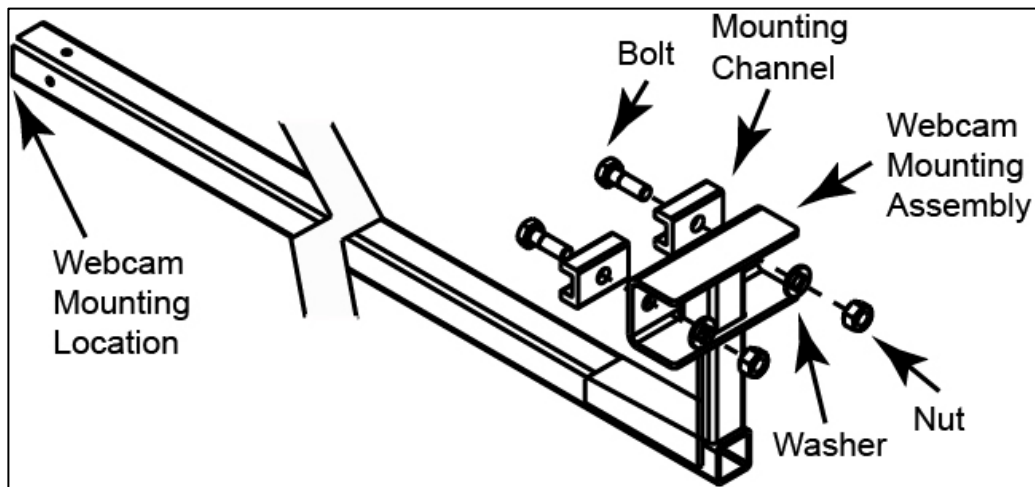

Figure 30: Fixed Webcam Arm Installation
1. The webcam arm is shipped with all hardware and arm components attached. Remove the $\frac{5}{8}$ " nuts and washers from the arm assembly before installing the webcam arm. Refer to **Figure 30**.